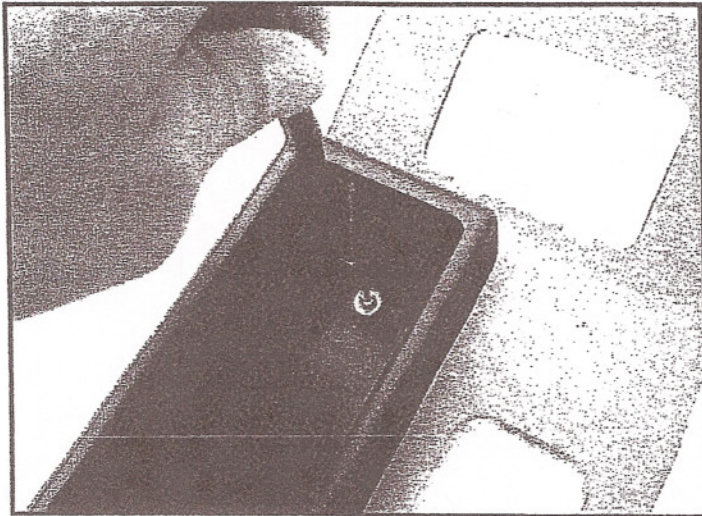

Figure 5
3. Insert a Phillips head screw (part number 9 907 948) and tighten snug as shown in Figure 5.